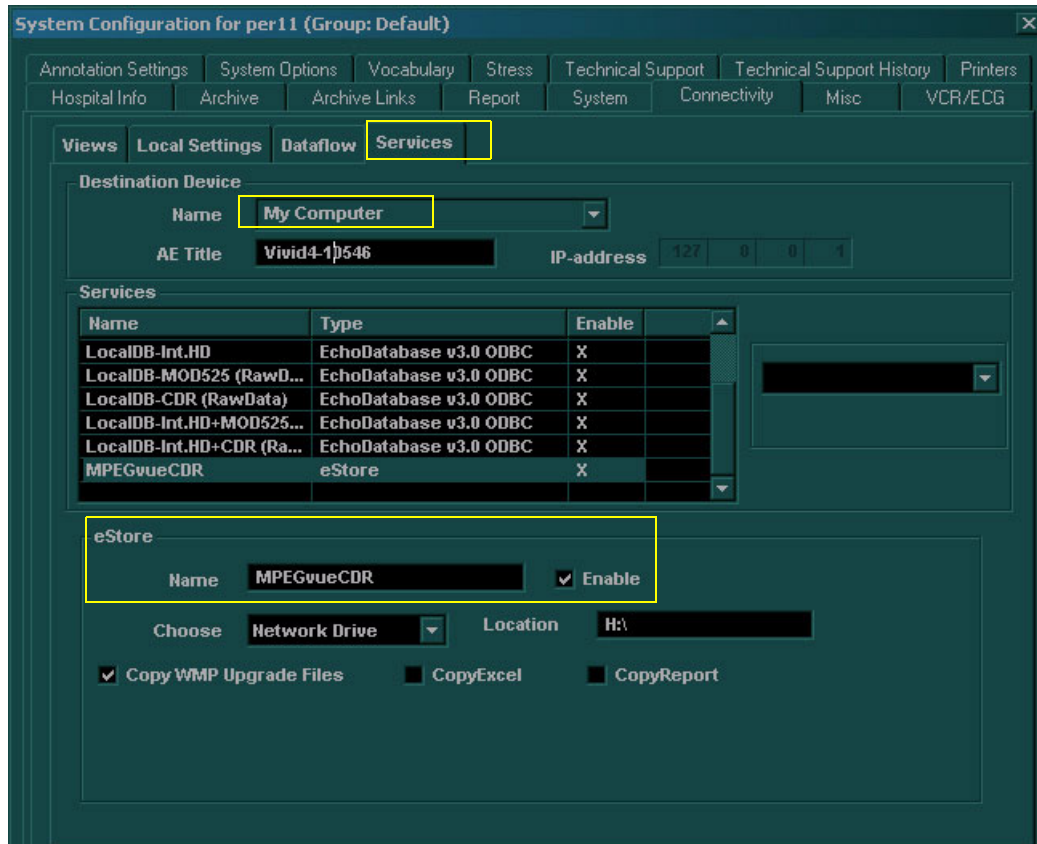

Figure 3-35 Setting up Remote Server for MPEGvue
- 5) Enable any other remote server, as required (for example, Services, My Computer, select **MPEGvueCDR** as shown in Figure 3-35).